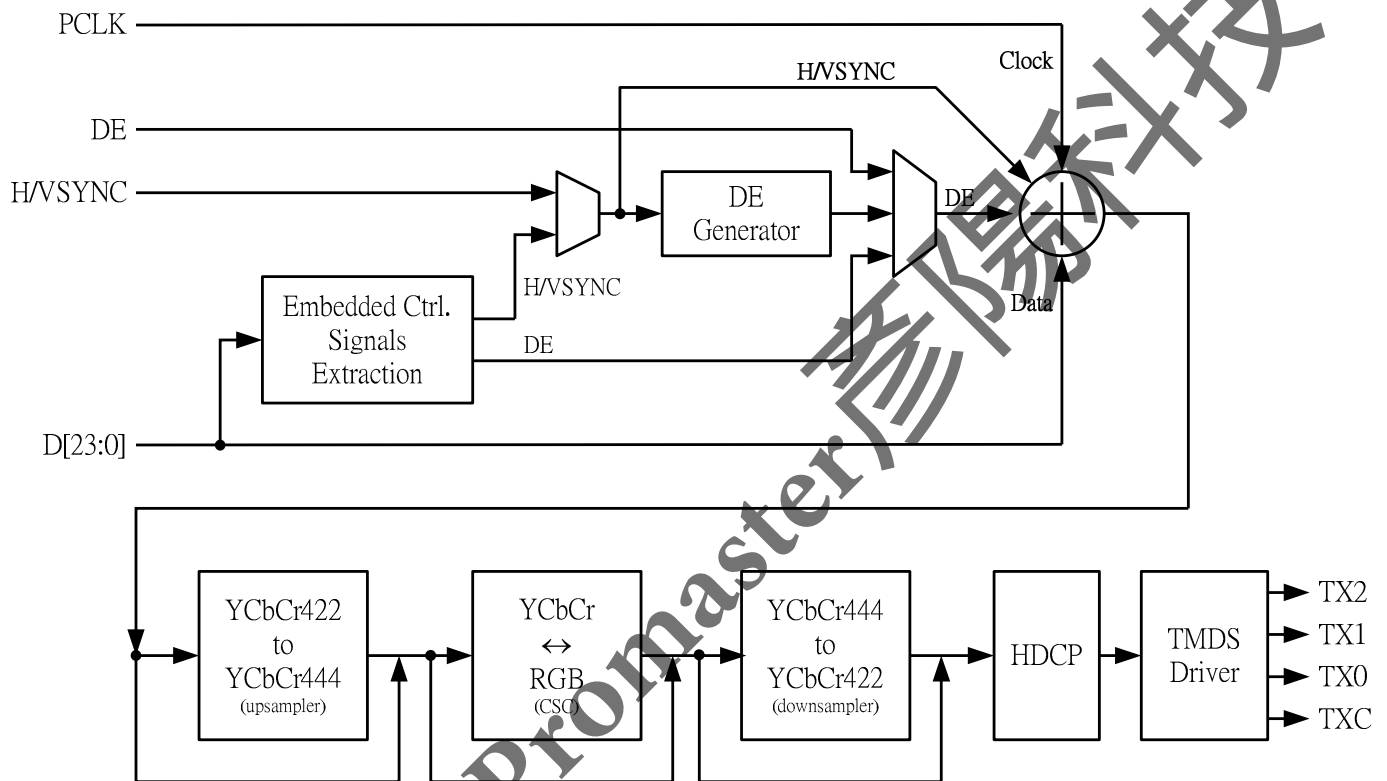

Figure 3. Video data processing flow of IT66121
Figure 3 depicts the video data processing flow. For the purpose of retaining maximum flexibility, most of the block enabling and path bypassing are controlled through register programming. Please refer to IT66121 Programming Guide for detailed and precise descriptions.
As can be seen from Figure 3, the first step of video data processing is to prepare the video data (Data), data enable signal (DE), video clock (Clock), horizontal sync and vertical sync signals (H/VSYNC). While the video data and video clock are always readily available from input pins, the preparation of the data enable and sync signals require special extraction process (Embedded Ctrl. Signals Extraction & DE Generator) depending on the format of input video data.
Although not explicitly depicted in Figure 3, **input video clock (PCLK) can be configured to be multiplied by 0.5, 1, 2 or 4,** so as to support special formats such as CCIR-656 and pixel-repeating. This is also enabled by software programming.